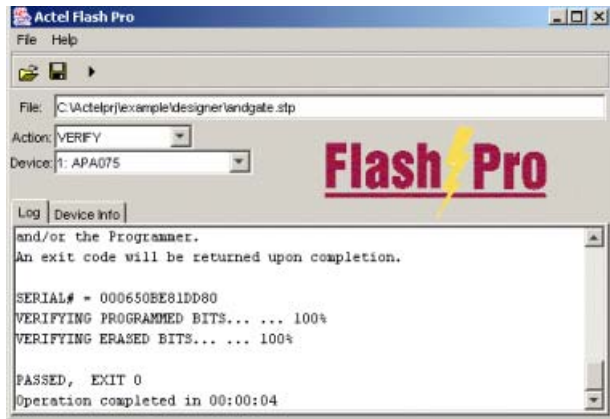

Figure 2-38. Successful Verification
4. Click **Execute** to start the verification process. A successful verification results in Exit 0, as shown in Figure 2-38. If the STAPL file is different from the file used for programming, **Exit 11** appears in the Log window.